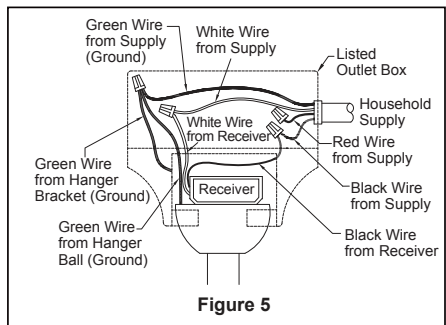

Figure 5
4. After connections have been made, the wires should be spread apart with the grounded conductor and the equipment-grounding conductor on one side of the outlet box and the ungrounded conductor on the other side of outlet box, then turn leads upward and carefully push leads into the outlet box, with the white and green leads to one side of the box and the black leads to the other side. (Figure 5)